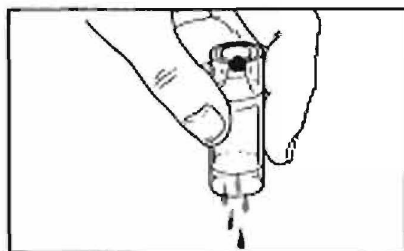

Figure 21. Decanting Supernatant.
- a. Uncap the SEDI-CAL Tube and decant supernatant by RAPIDLY and COMPLETELY inverting tube (Figure 21). DO NOT SHAKE. Approximately 0.2 ml of supernatant and sediment should remain in the bottom reservoir. Then IMMEDIATELY turn the tube right side up and replace cap.